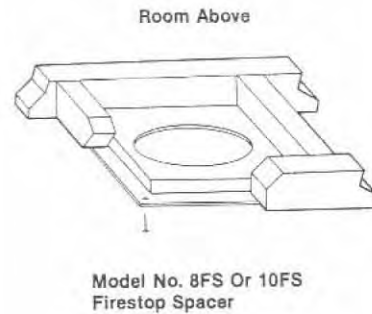

Figure 23
**Step 3 Conventional Housing:** Position appropriate firestop spacer at ceiling and nail temporarily with two (2) 8d nails. Use flat Firestop Spacer, Model 8FS for TF8 system and Model 10FS for TF10 system, if chimney penetrates ceiling vertically. If chimney penetrates ceiling at 30° angle (offset chimney), use 30° Firestop Spacer, Model 8FS30 for TF8 system and Model 10FS30 for TF10 system. Use one nail on opposite sides to hold Firestop Spacer in position. Nail permanently, using at least 2 more 8d nails, after chimney sections have been assembled through the Firestop Spacer and after any necessary adjustments have been made. Firestop Spacer must be secured by at least four (4) 8d nails when completely installed.
**Note:** If there is a room above ceiling level, Firestop Spacer must be installed on bottom side of ceiling. If attic is above ceiling level, Firestop Spacer must be installed on top side of ceiling (*Figures 23 and 24*).